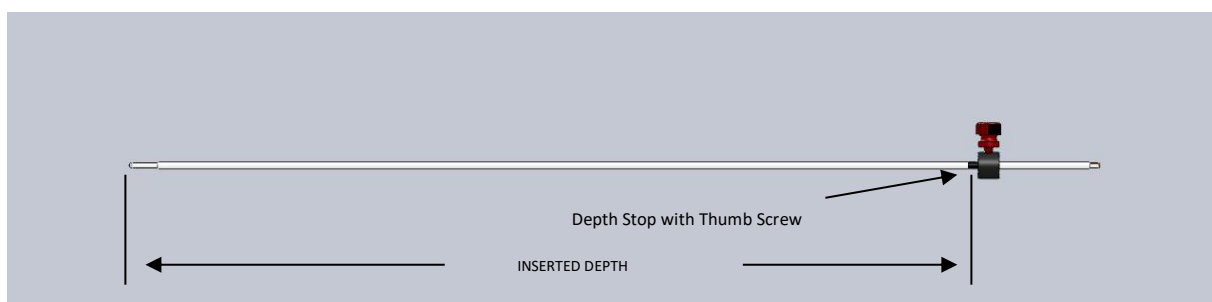

Figure 17: Stylet and Depth Stop
5. When utilizing the Depth Stop, the inserted depth of the Stylet is defined by the distal side face of the Depth Stop to the distal tip of the Stylet. Slide the stylet into Depth Lock until Depth Stop rests on top of Device Lock. Then tighten Device Lock. Confirm the length using the Ruler. See Figure 17.